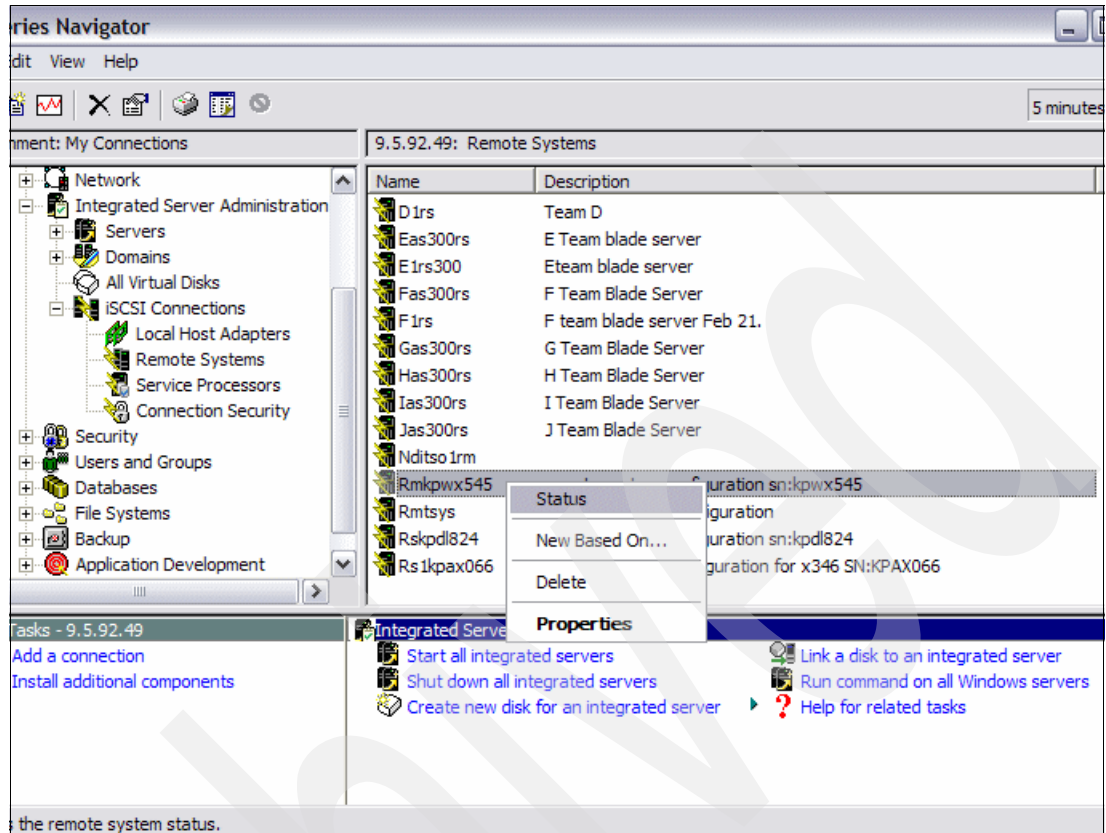

Figure 4-25 Select status
- c. Right-click the remote system and select **Status** (Figure 4-25).